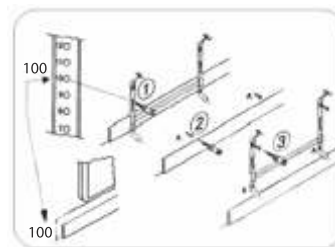

Fig. 5
6. Drill holes of the required diameter on the mounting holes, insert dowels, attach the mounting bracket and fasten adjusting screws, thereby securing bracket on the wall (Fig. 5).